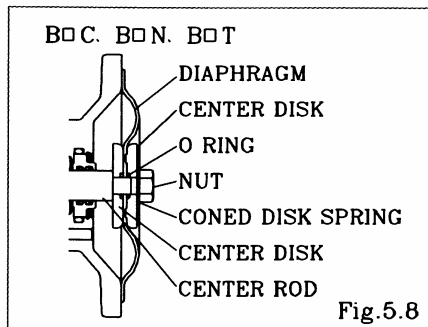

Fig.5.8
- Install the O ring (cf. Fig.5.8).